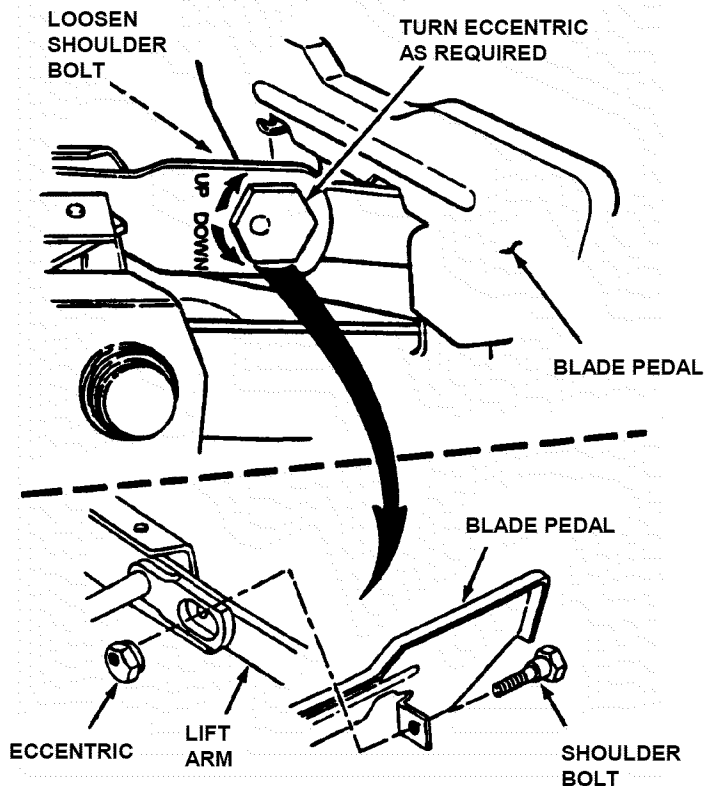

FIGURE 4.3
6. Loosen the shoulder bolt retaining the left side of blade pedals. See Figure 4.3.
7. Turn eccentric "UP" or "DOWN" as required until blade tips are within 1/8" of each other. See Figure 4.3.